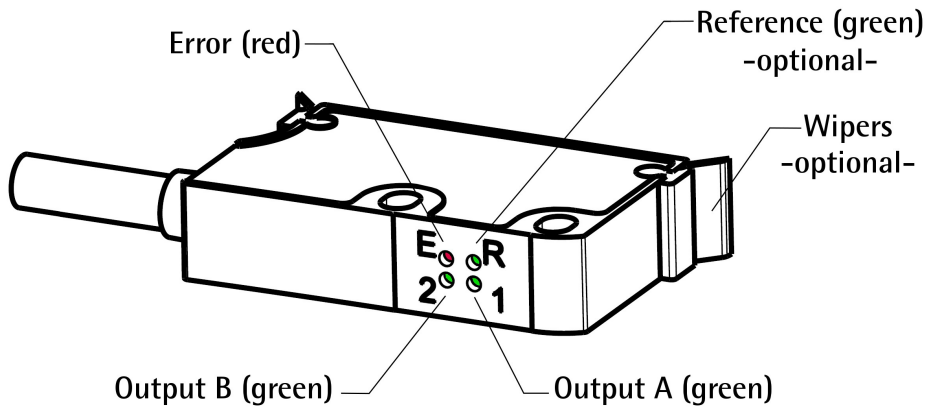

Figure 8 - Diagnostic LEDs and optional cleaning wipers
4.11 Diagnostic LEDs (Figure 8)
The following list shows some typical faults and errors that may occur during installation and operation of the magnetic measurement system. Refer also to the "4.11 Diagnostic LEDs (Figure 8)" section on page 23.